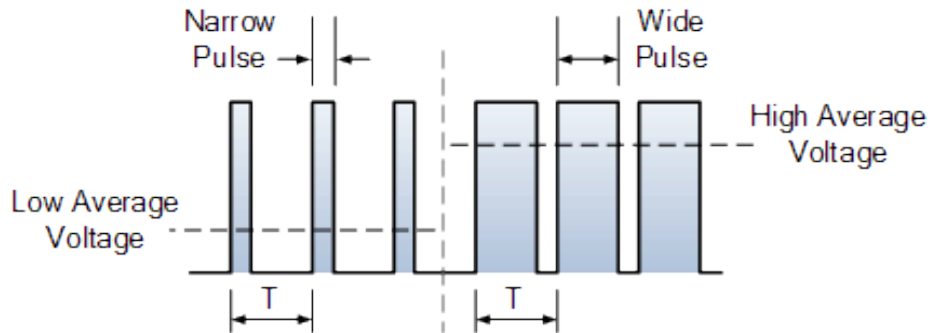

Figure 4.5. PWM (Pulse Width Modulation) speed control
3.1. PWM (Pulse Width Modulation) speed control works by driving the DC motor with a series of “ON-OFF” pulses and varying the duty cycle of the pulses while keeping the frequency constant, thus changing the Average Voltage applied to the Armature, as it is shown in Figure 4.5. The duty cycle is the fraction of time that the output voltage is “ON” compared to when it is “OFF”.